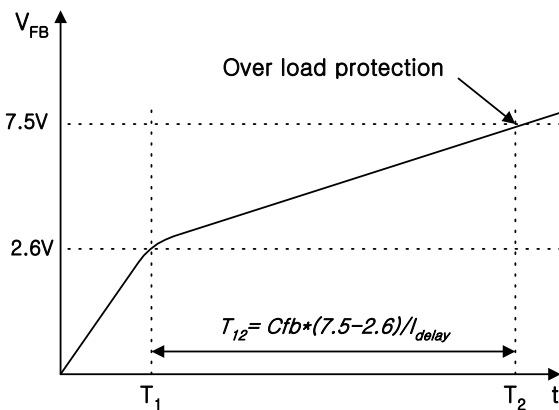

Figure 4. Over load protection
3.2 Over Load Protection (OLP) : Overload means that the load current exceeds a pre-set level due to an abnormal situation. In this situation, protection circuit should be activated in order to protect the SMPS. However, even when the SMPS is in the normal operation, the over load protection circuit can be activated during the load transition. In order to avoid this undesired operation, the over load protection circuit is designed to be activated after a specified period to determine whether it is a transient situation or an overload situation. Because of the pulse-by-pulse current limit capability, the maximum peak current through the SMPS is limited, and therefore the maximum input power is restricted with a given input voltage. If the output consumes beyond this maximum power, the output voltage (V_o) decreases below the set voltage. This reduces the current through the opto-coupler diode, which also reduces opto-coupler transistor current increasing V_{fb} . If V_{fb} exceeds 2.6V, D1 is blocked and the $5\mu A$ current source starts to charge C_{fb} slowly compared to when the 0.9mA current source charges C_{fb} . In this condition, V_{fb} continues increasing until it reaches 7.5V, and the switching operation is terminated at that time as shown in figure 4. The delay time for shutdown is the time required to charge C_{fb} from 2.6V to 7.5V with $5\mu A$. When C_{fb} is 10nF (103), T_{12} is approximately 9.8ms and when C_{fb} is 0.1 μF (104), T_{12} is approximately 98ms. These values are enough to prevent SMPS from being shut down during transient situations.